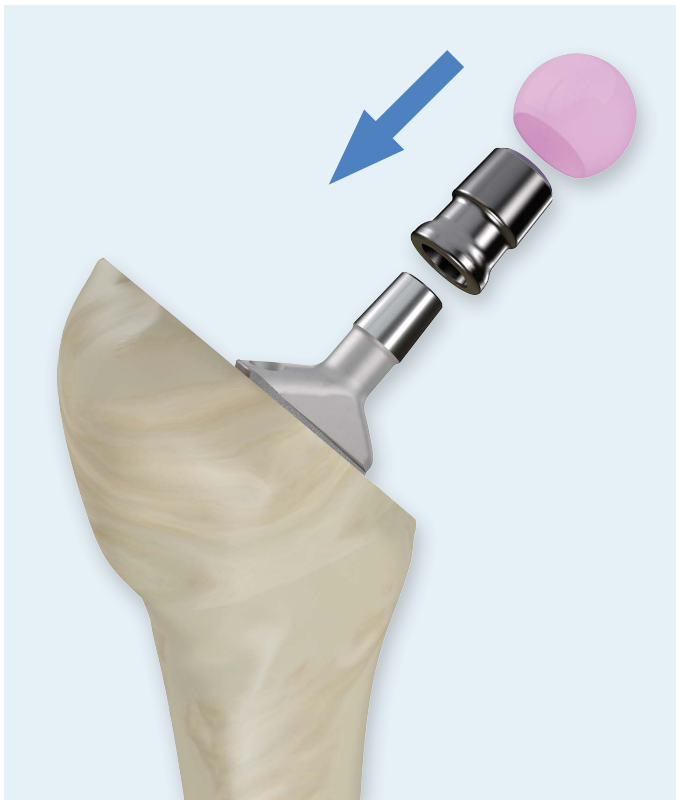

Figure 10 Attaching the implants
- Next, place the head on the BioBall™ Adapter and, as with the adapter, press it firmly in an axial direction with a clockwise turn (Fig. 10).